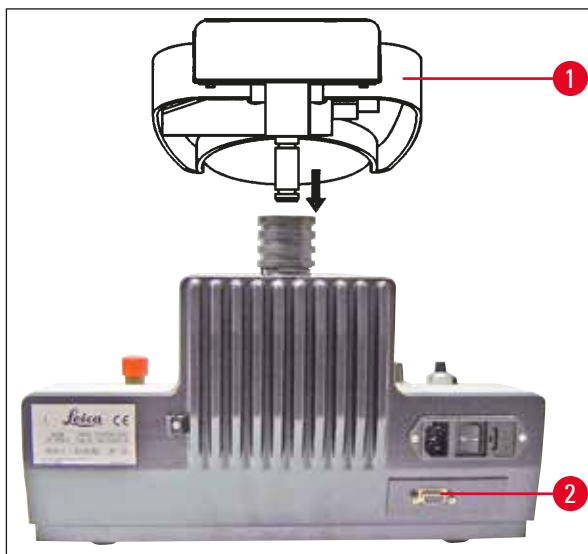

Fig. 8
- Set it on the instrument as shown in (→ Fig. 8).